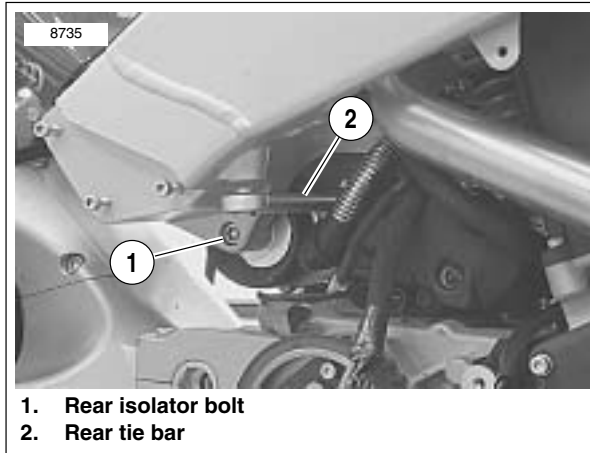

Figure 3-6. Rear Isolator Bolt and Rear Tie Bar (Typical)
20. See Figure 3-6. Remove rear tie bar (2) from frame only.